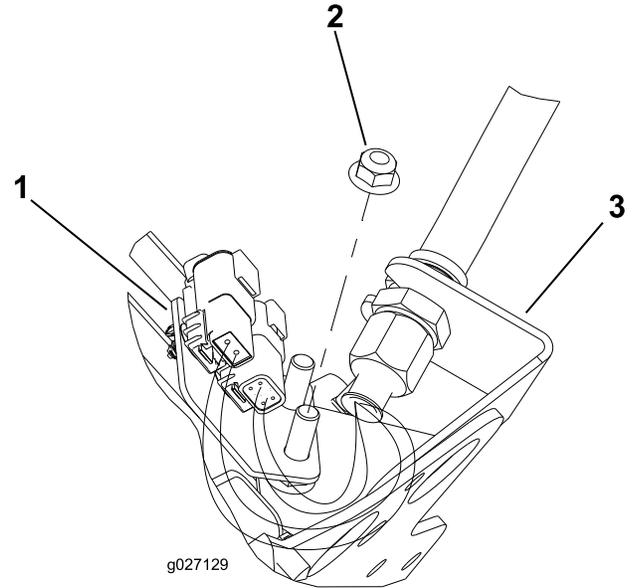
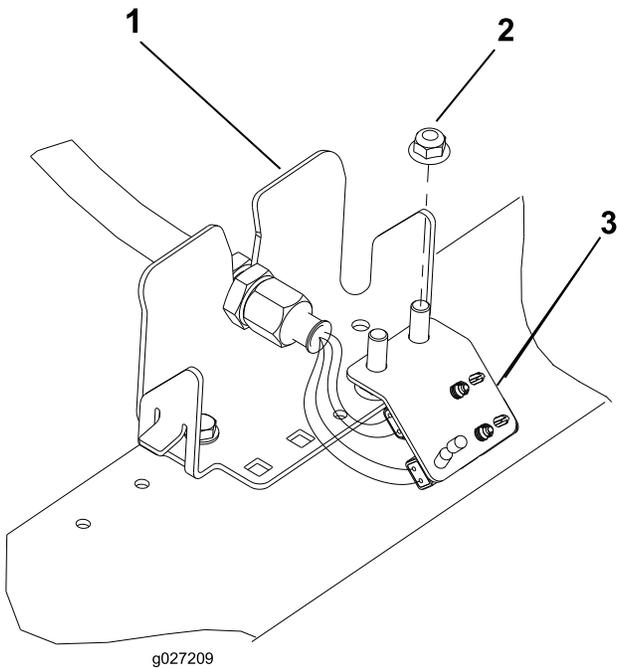

Figure 13
Figure 16
6. Repeat the procedure on the remaining (4) bulkhead locations as shown in Figure 13 thru Figure 16.